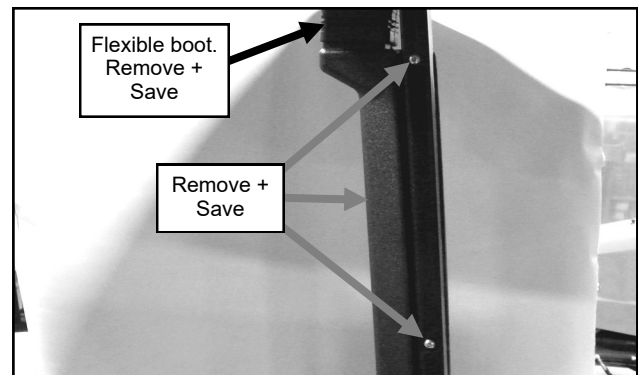

Fig. 1.3 (drain tube bolts - left side)
**1.3** Remove and save the (2) drain tubes with mounting hardware and drain tube flexible boots, per figure 1.3. Set aside until Step 3.13 when they get re-installed.